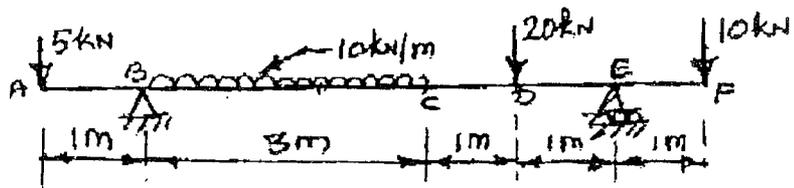

Fig.2.
11. Draw the shear force and bending moment diagrams for the beam shown in Fig. 2 and mark the salient values on them.